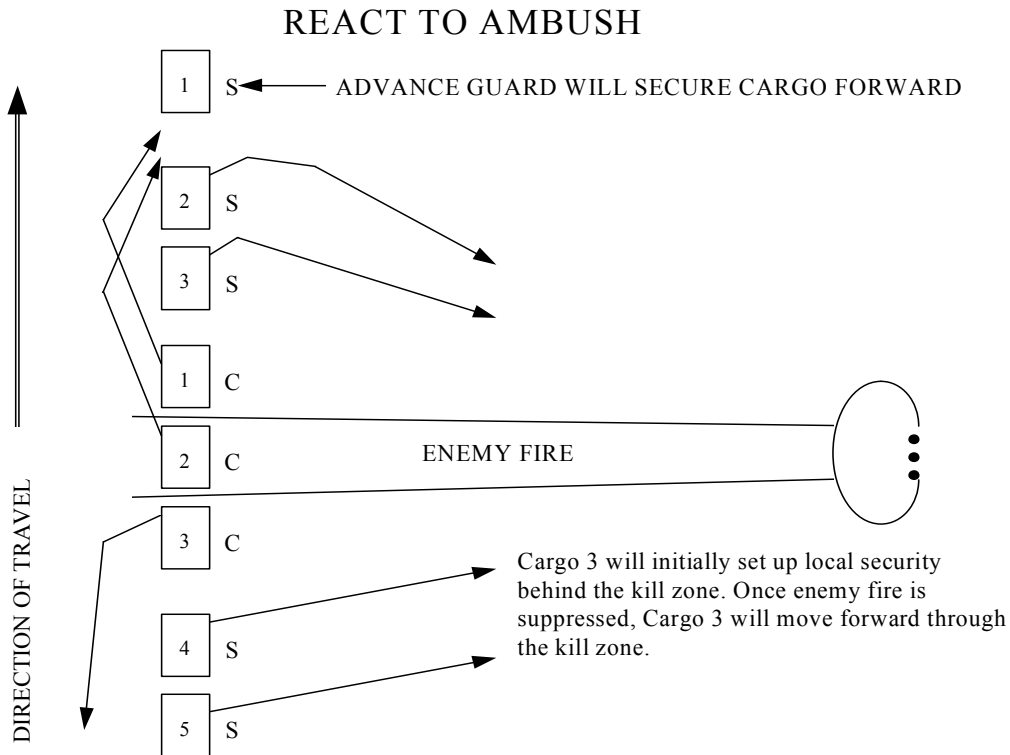

Figure 5-3
e. Close Ambush, road not blocked (Figure 5-3): The convoy commander will:
- (1) Signal convoy's actions by calling "Road Warrior" over the radio.
- (2) Direct personnel in front of and behind kill zone to halt outside of the kill zone. Dismount and assemble personnel on the opposite side of the road from the ambush fire. Personnel will provide local 360 degree security.
- (3) If situation dictates, convoy personnel not in the kill zone will assemble and prepare to maneuver against flank of ambush on orders of senior leader. Convoy personnel will coordinate all intended actions with senior leader prior to execution of any attack or counter attack plans. Ensure no indirect friendly fire is impacting the objective while flanking the objective. This will ensure a coordinated effort.
- (4) Convoy commander will report their situation to the FSB Battle Captain requesting support, changes in route or implementation of offensive maneuver against the ambush element.
- (5) Do not pursue the enemy if he has broken contact.